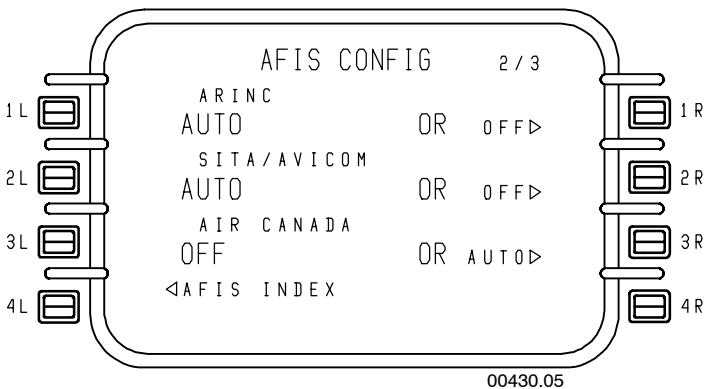

Figure 6-71
- **AFIS CONFIG 2/3** - Figure 6-71 shows the current configuration for the ARINC, SITA/AVICON, and AIR CANADA networks. AUTO enables automatic transmission to and from the specified network. OFF disables transmissions over the specified network.